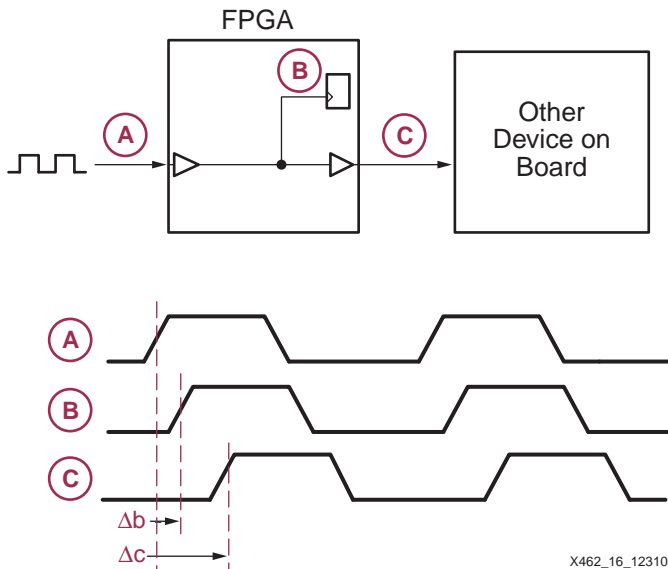
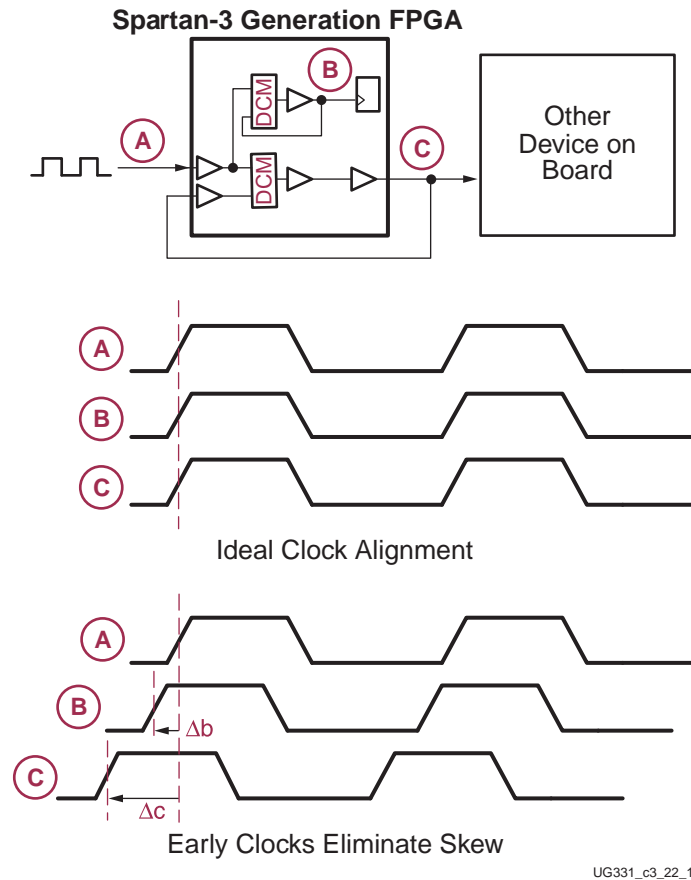

Figure 3-16: Clock Skew Inherently Exists in Every Synchronous System
Figure 3-17: Eliminating Clock Skew in a Spartan-3 Generation FPGA Design
Figure 3-16 illustrates clock skew in an example system. A clock source drives the clock input to an FPGA. The clock enters through an input pin on the FPGA, is distributed within the FPGA using the internal low-skew global clock network, and arrives at a flip-flop within the FPGA. Each element in the clock path delays the arrival of the clock edge at the flip-flop. Consequently, the clock input at the flip-flop—Point (B)—is delayed, or skewed compared to the original clock source at Point (A). In this example, this clock skew or difference in arrival time for this path is called  $\Delta b$ .
Is there a way to eliminate clock skew? Fortunately, a DCM provides such capabilities. Figure 3-17 shows the same example design as Figure 3-16, except this time implemented in a Spartan-3 generation FPGA. Two DCMs eliminate the clock skew: one DCM eliminates the skew for clocked items within the FPGA, the other DCM eliminates the skew when clocking the other device on the board. The result is practically ideal alignment between the clock at Points (A), (B), and (C)!
How is clock skew elimination accomplished? Remember, clock skew is caused by the delay in the clock path. In Figure 3-17, the clock at Point (B) was skewed by  $\Delta b$  and the clock at Point (C) was skewed by  $\Delta c$ . What if there was a way to provide Point (B) with an early version of the clock, advanced by  $\Delta b$  and a way to provide Point (C) with an early version of the clock, advanced by  $\Delta c$ ? The result would be that all clocks would arrive at their destinations with perfect clock edge alignment. Such perfect alignment reduces setup times, shortens clock-to-output delays, and increases overall system performance.
Instead of attempting to determine the  $\Delta b$  and  $\Delta c$  delays in advance, the Spartan-3 FPGA DCM employs a DLL that constantly monitors the delay via a feedback loop, as shown in Figure 3-17. In this particular example, two DCMs are required—one to compensate for the clock skew to internal signals and another to compensate for the skew to external devices, each with their own clock feedback loop. The DLL constantly adapts to subtle changes caused by temperature and voltage.